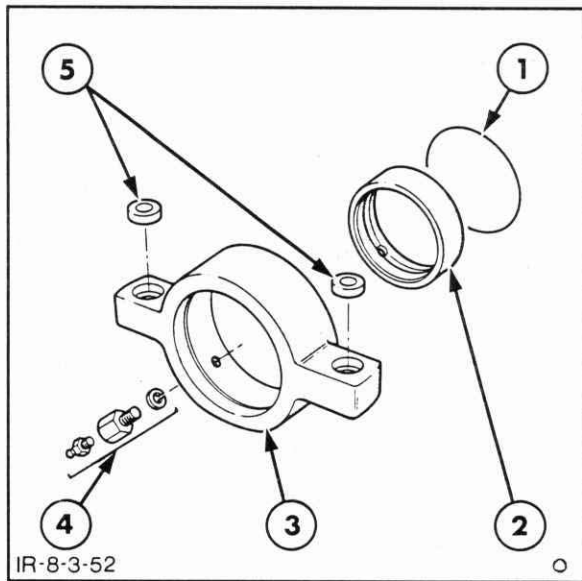

Figure 7-115
2. Remove the O-ring seal from the bushing inside the rear support pillar, Figure 7-115. Clean all mating surfaces of the bushings and slide the front and rear supports back onto the front and rear trunnions. Assess the degree of wear by rocking the supports from side to side. If wear is excessive, bushings should be replaced.